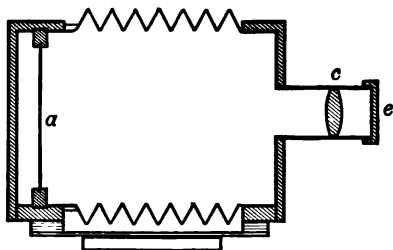

FIG. 166
**235. The Photographic Camera.** — The camera, shown in diagram in Fig. 166, consists of a light-tight box having at one end a screen or *sensitive plate*, *a* ; opposite is a *convex lens*, *c*, so arranged as to form an image on the plate. A shutter, *e*, keeps light from entering through the lens.